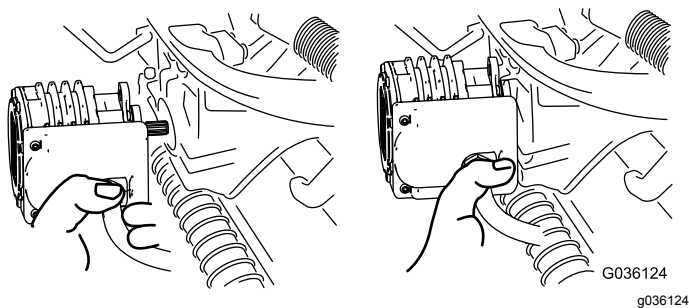

Figure 54
4. Move the motor to the storage location on the front of the suspension arm (Figure 54).